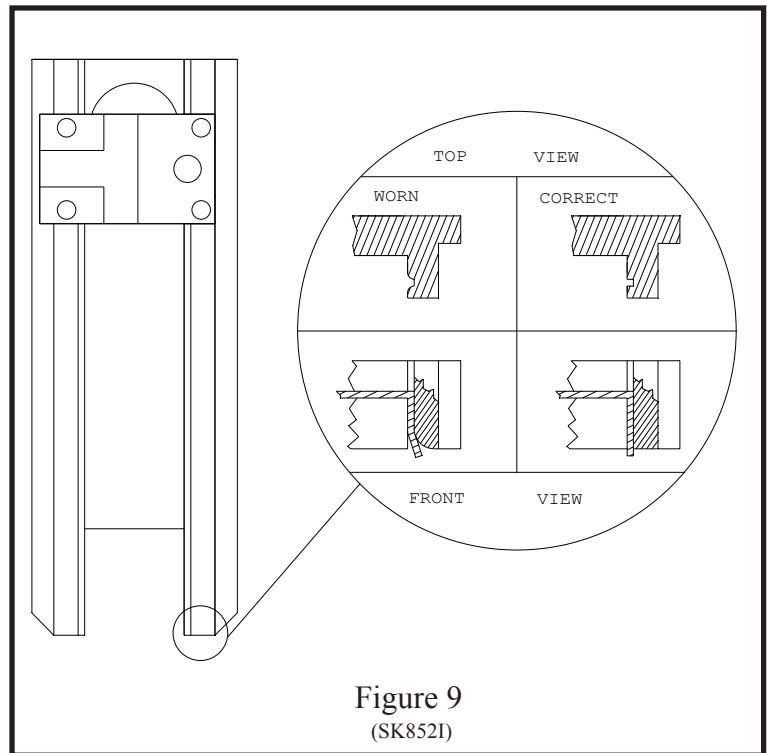
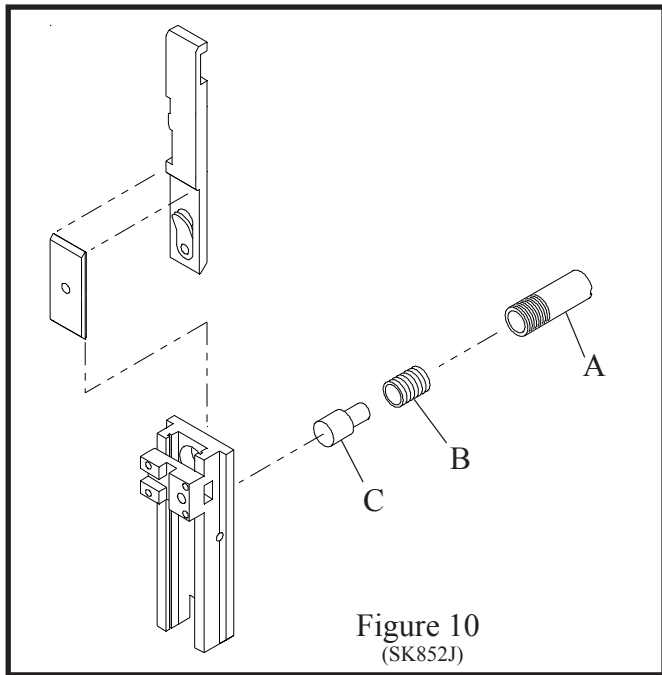

Figure 9
Figure 10
D. Bender Bar (See fig. 9)
The bender bar bends the wire over the rotator and forms it into an unclinched stitch. The legs of the stitch are guided towards the work material by the bender bar grooves. The legs of the unclinched stitch should be perpendicular to the crown. When the bender bar grooves become worn, the legs tend to flare out (Figure 9) as they emerge from the grooves. This causes the legs to strike the clincher improperly. As a result, one or both legs will crumple and a broken driver bar or a broken bender bar can result. If the lower end of the bender bar grooves become chipped, it will not support the wire and may cause the stitch to break at the crown. Replace the bender bar assembly (See "H" page 15 or Fig. 10). Other bender bar functions are related to wire cutting ("J" page 16), and driving ("G" page 14).
E. Bender Bar Friction Plug And/Or Spring (See fig. 10)